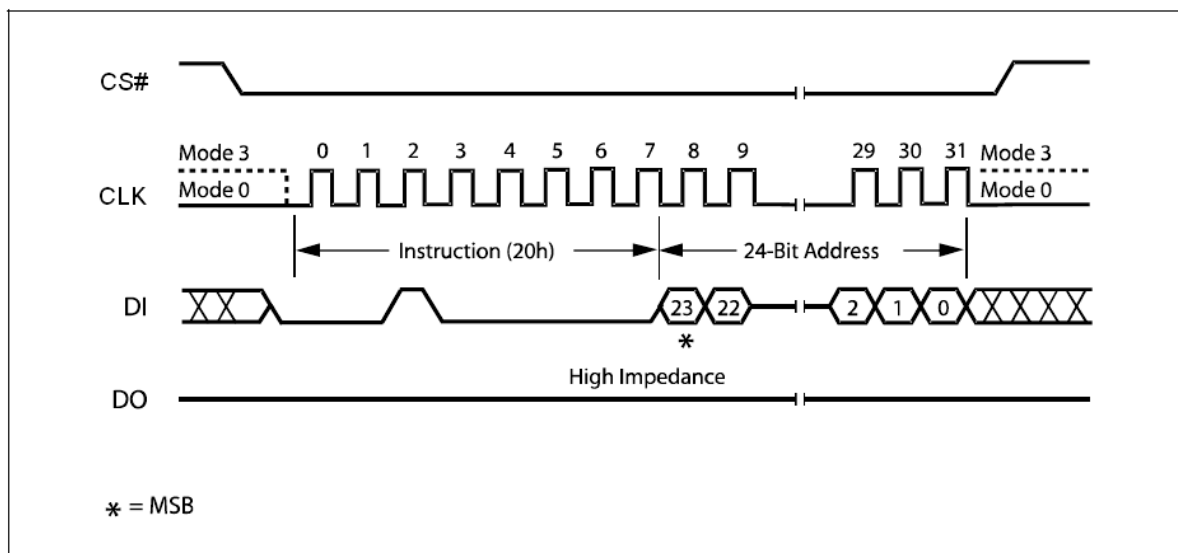

Figure 20. Sector Erase Instruction Sequence Diagram
The instruction sequence is shown in Figure 20. Chip Select (CS#) must be driven High after the eighth bit of the last address byte has been latched in, otherwise the Sector Erase (SE) instruction is not executed. As soon as Chip Select (CS#) is driven High, the self-timed Sector Erase cycle (whose duration is t_{SE}) is initiated. While the Sector Erase cycle is in progress, the Status Register may be read to check the value of the Write In Progress (WIP) bit. The Write In Progress (WIP) bit is 1 during the self-